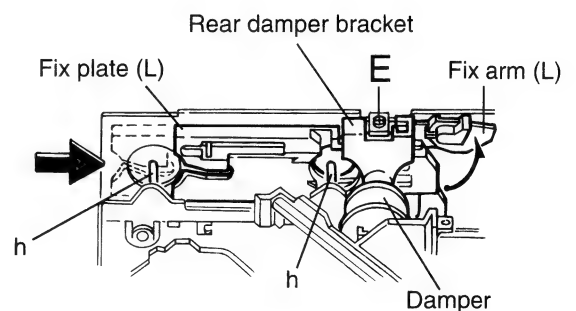

Fig.8
2. Raise the both sides fix arms and move the fix plates in the direction of the arrow to place the four shafts A as shown in Fig.8 and 9.